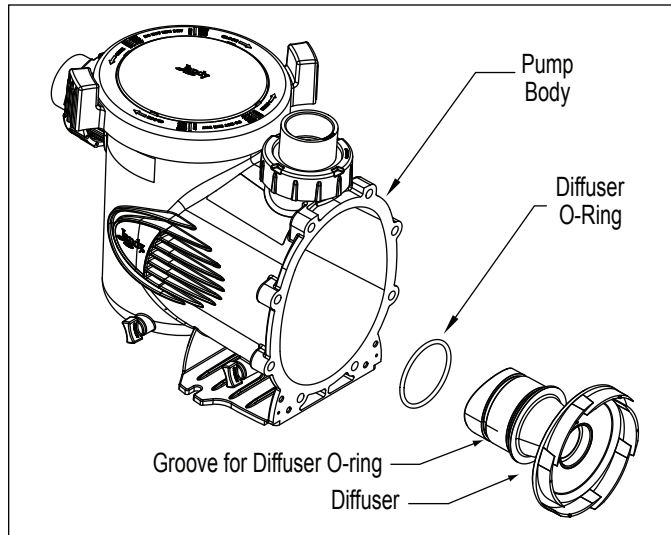

Figure 12. Pump Body and Diffuser Exploded View
6. Replace the two (2) small Phillips-head screws. Tighten the screws to draw the diffuser against the motor backplate.
7. To help prevent an airleak into the system, make sure the diffuser o-ring, o-ring groove, and o-ring seal area are clean and free of debris. If you removed the diffuser o-ring, make sure you install it into the groove you removed it from. (See Figure 12.) If grease is used to retain the o-ring, it **must** be silicone based. **Do not use petroleum-based grease.** It will destroy the o-ring.